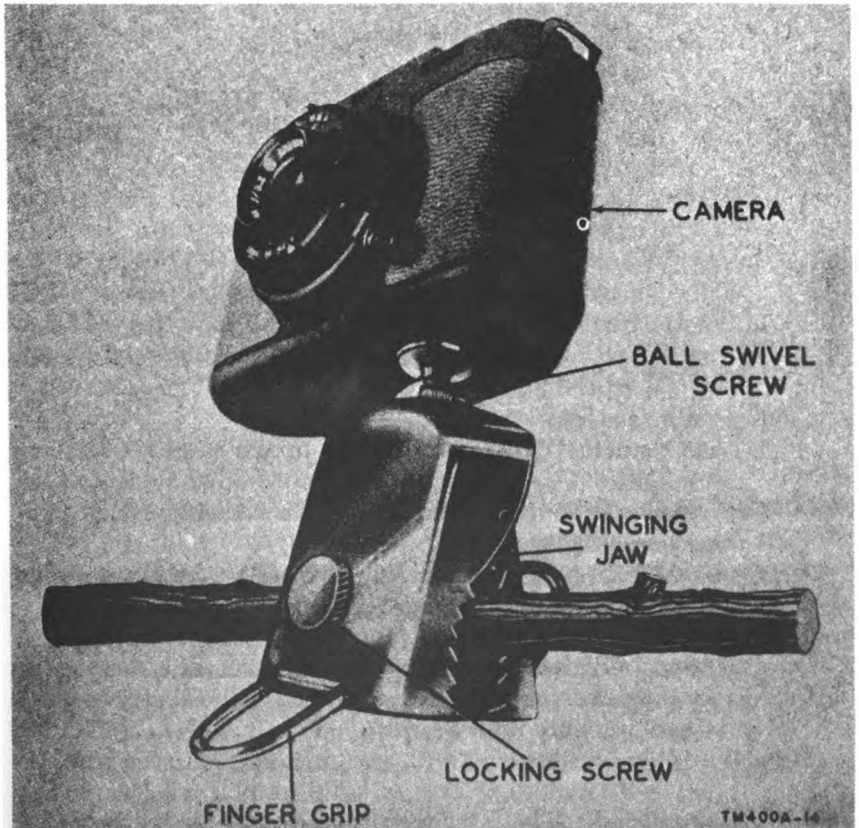

Figure 14. Camera mounting clamp, with Camera PH-324-A attached.
e. Camera Mounting Clamp (fig. 14).
- (1) Camera PH-324-A should be placed on a stationary support when time and bulb exposures are made. The camera may be set on a flat surface or attached to a convenient object by means of the camera mounting clamp furnished with the equipment.
- (2) To attach the clamp to the camera, tighten the locking screw on the clamp so that the ball swivel will not turn. Screw the ball swivel screw into the tripod socket of the camera.
- (3) Pull the jaws of the clamp open, using the finger grips, and place the jaws over a fence rail, tree branch, or other object. Press the points firmly into the surface.
- (4) Loosen the locking screw, position the camera, and tighten the screw again.
- (5) When the clamp is attached in a horizontal position, place the inside or swinging jaw on top.